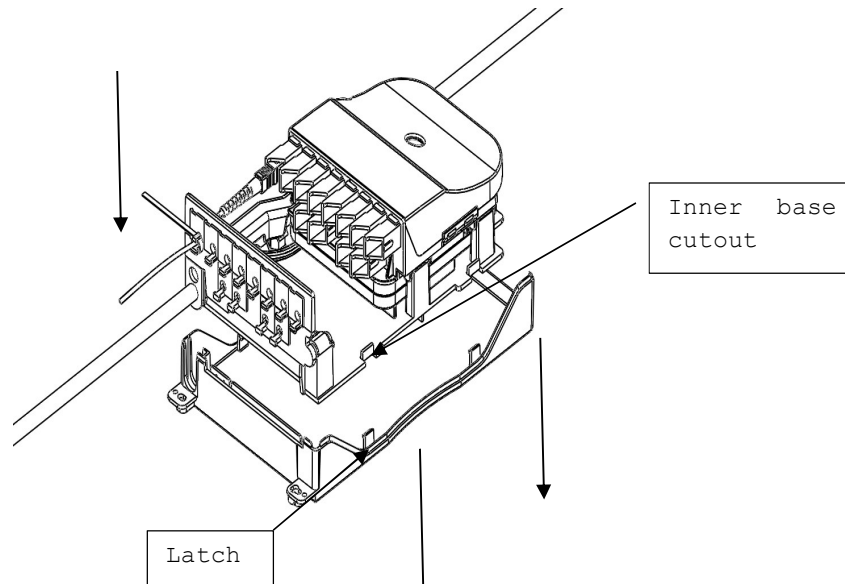

Fig. 37
5.2.2. To re-install the inner base, push the inner base straight down until the lower base latches fully engage. Make sure that the latches are aligned with the inner base cutouts before pushing the inner base down (Fig. 37);